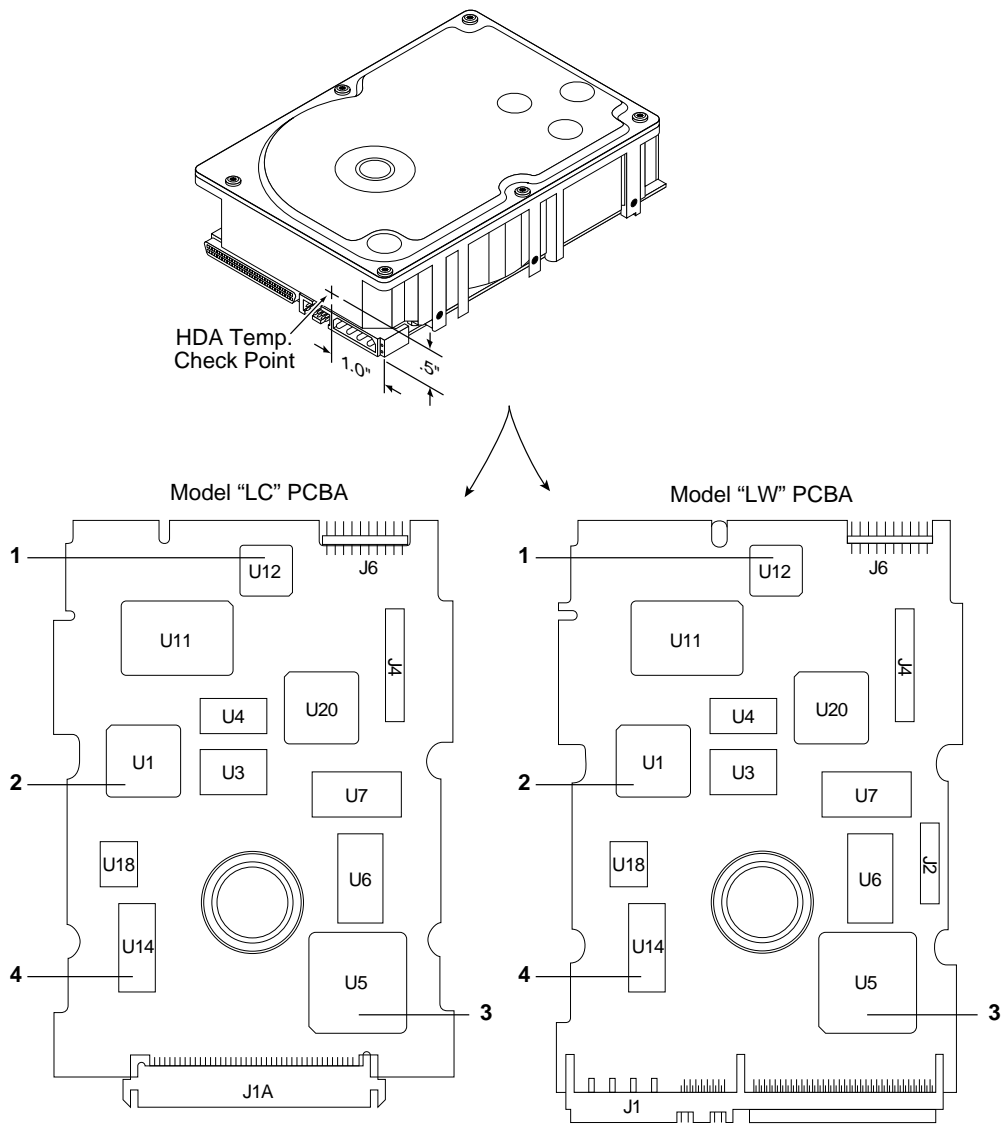

Figure 7. Locations of PCB components listed in Table 3
- [3] Measure HDA temp at point labeled "HDA" on Figure 7.